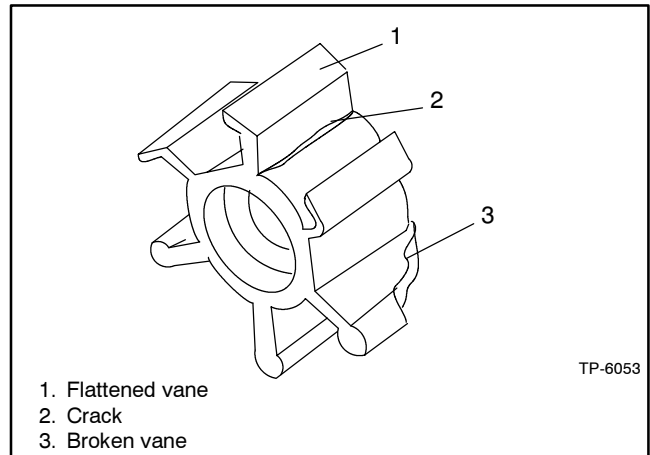

Figure 6-4 Worn Impeller
4. Inspect the impeller for damaged, cracked, broken, missing or flattened vanes. The impeller vanes should be straight and flexible. See Figure 6-4. Replace the impeller if it is damaged.